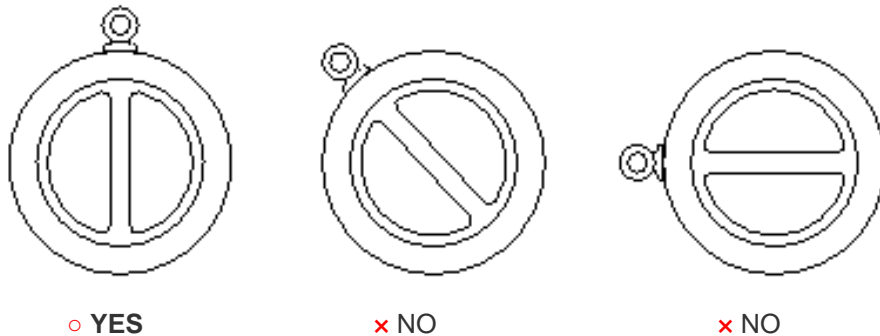

Fig.2.
- c. In the horizontal piping, please install the valve vertically according to the Fig. 2.